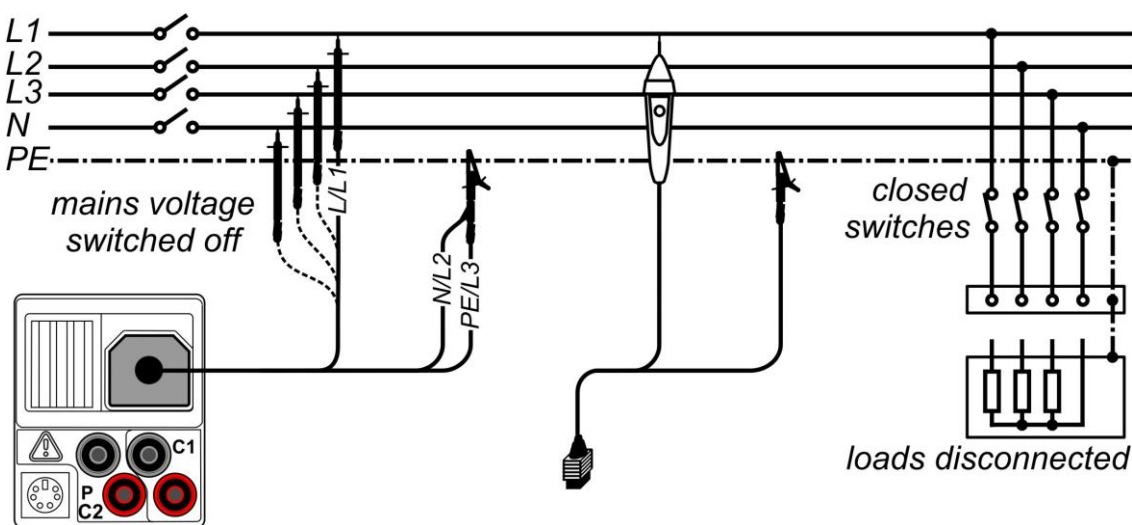

Figure 5.6: Connections for insulation measurement
- ❑ **Connect** test cable to the instrument and to the item to be tested (see figure 5.6).